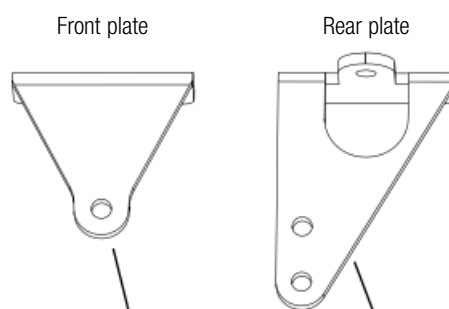
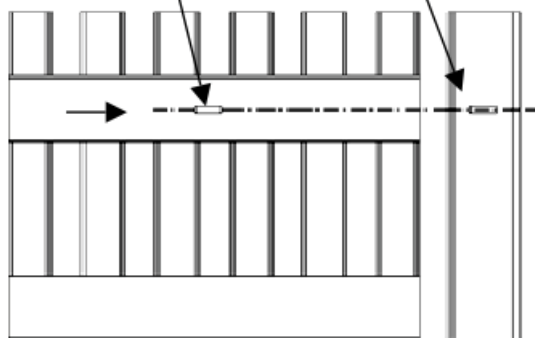

FIG. 4
FIG. 5
Fix the rear plate to the column (Fig. 4) in accordance to the desired coordinates. In case an iron pillar is available, screw directly onto the column the plate with 3 screws M8..
**ATTENTION:** when establishing the height off the ground at which to fasten the plate to the pillar (Fig. 4), keep in mind that the plate for anchoring the piston to the gate must be fastened at the same level (Fig. 5).